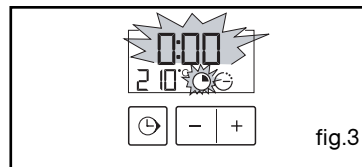

fig.3
- The cooking time indicator and 0:00 flash (fig.3).